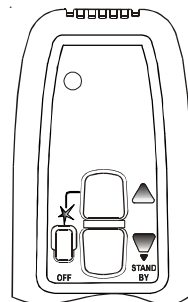

Figure 4: Remote Handset, Standard Model
7. Simultaneously press and hold the  (star) and  (up arrow) buttons (if Infrared Model:   (star, up arrow) and the small lower button) until a short acoustic signal confirms the start sequence has begun; release buttons. Continuing signals confirms the ignition is in process. Once pilot ignition is confirmed there is main gas flow. (see figures 4 & 6)
Simultaneously press and hold the ☆ (star) and ▲ (up arrow) buttons (if Infrared Model: ☆ ▲ (star, up arrow) and the small lower button) until a short acoustic signal confirms the start sequence has begun; release buttons (see figures 4 & 6).
Set thermostat (if equipped) to desired setting or use remote control to adjust flame. In standby mode: press ▲ (up arrow) to increase flame height; press ▼ (down arrow) to decrease flame height or set appliance at pilot flame (see figure 4). For fine adjustment tap the up/down arrows.